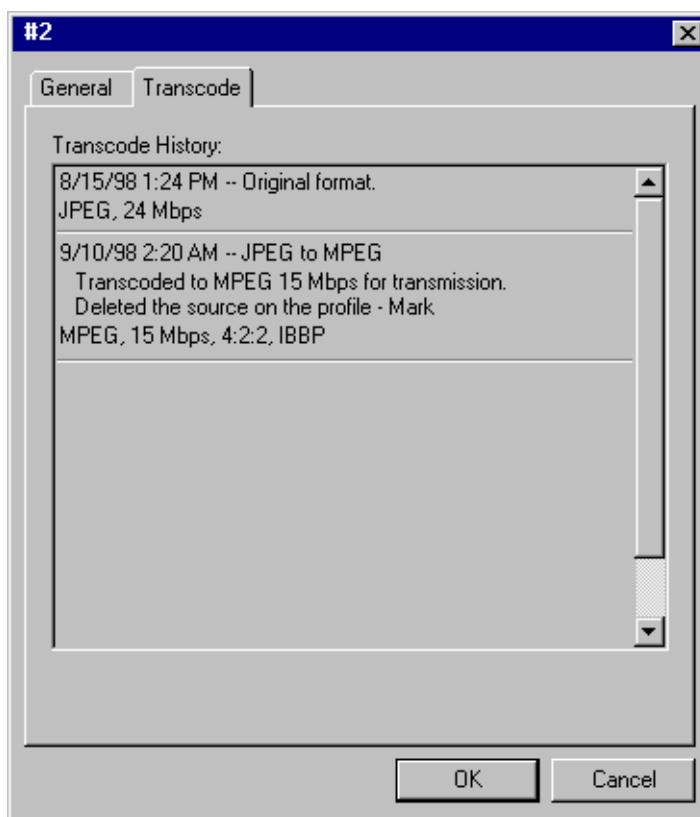

Figure 55. The transcode history page
5. Click the **Transcode** tab to view the transcode history (shown in Figure 55) for the master or clip. Each entry on the history page contains the date and time of the conversion, user description, target format, and when applicable, data rate, chrominance value, and GOP structure.